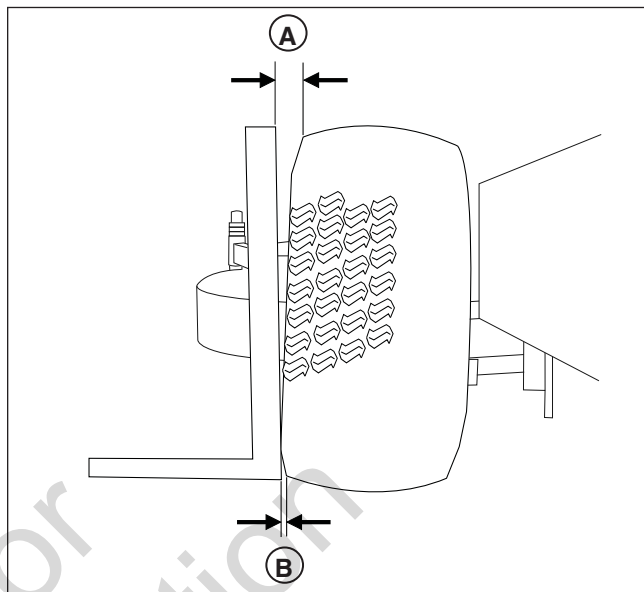

Figure 36. Measuring the Camber Distance
3. See Figure 36. Measure and record the distance from the carpenters square to the top of the tire (A, Figure 36). Measure and record the distance from the carpenters square to the bottom of the tire (B.) Subtract the bottom measurement from the top measurement and reference the chart below for the number of shims that are needed. If the measurement is greater than .75" (1,91 cm) contact your dealer.